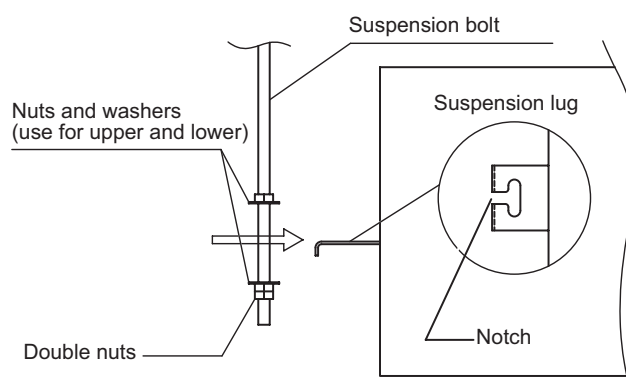

Fig. 2-91
- (3) Thread the 3 hexagonal nuts and 2 washers (field supply) onto each of the 4 suspension bolts (Figs. 2-91 and 2-92). Use 1 nut and 1 washer for the upper part, and 2 nuts and 1 washer for the lower part, so that the unit will not fall off the suspension lugs.